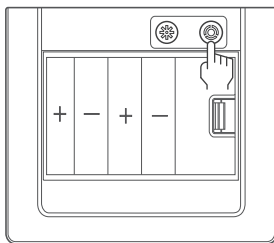

Figure 5
1. As shown in Figure 5, press "Ⓜ" for 3 seconds. There will be a voice prompt "Vibration alert is on", indicating successful operation. Press the same button for another 3 seconds can turn the "Vibration alert" off.